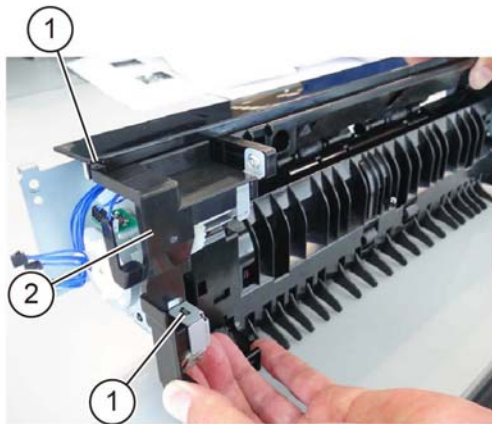

Figure 4 Rear cover removal
10. Disengage two hooks (1), then remove the rear cover (2), **Figure 4**.